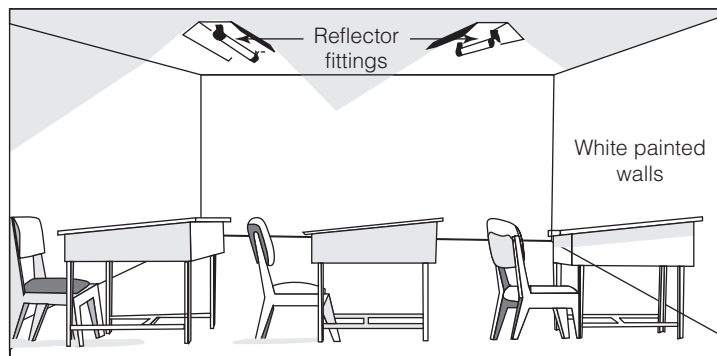

Figure 6.11 *Lighting in a classroom*
The examples below provide some guidance on selecting lights for different lighting applications (see also Figure 6.11).
- The large areas of classrooms must be provided with enough light for reading (>400 lux). Experience indicates that students can read well in a typical 8 × 10m (25 × 30 feet) classroom under two 15W fluorescent lamps fitted with stainless-steel reflectors (see Figure 6.11).